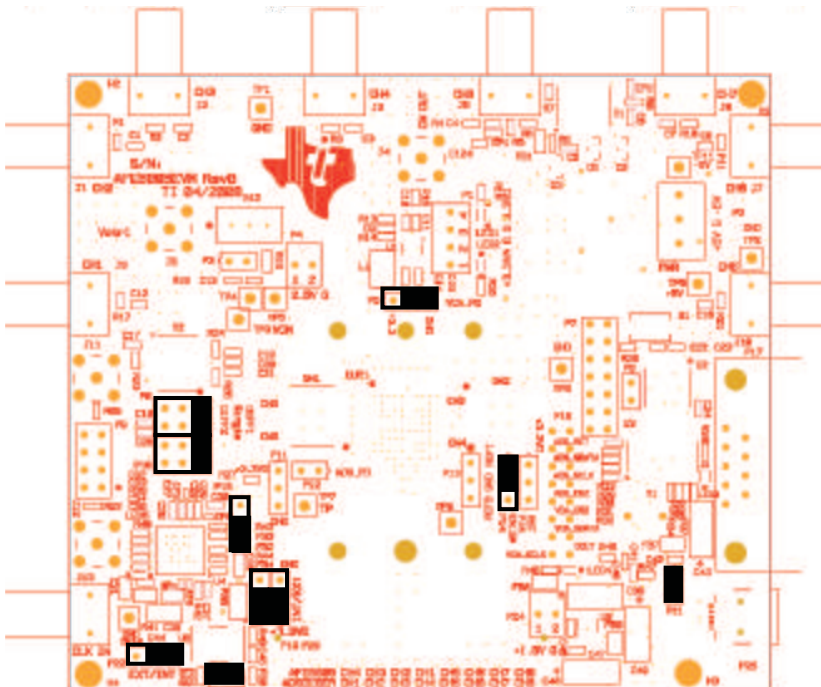

Figure 4. Default Setup for Jumpers
- P18: Because U4 is uninstalled, this jumper must be set as Figure 4 shows
When HP8644 or similar clock sources are unavailable, the onboard 40-MHz clock is the desirable source. The jumpers P22, P23, and P18 must be configured as shown in Figure 4 (i.e., the default setup for AFE5804EVM). In this mode, the transformer-based differential clock is used.